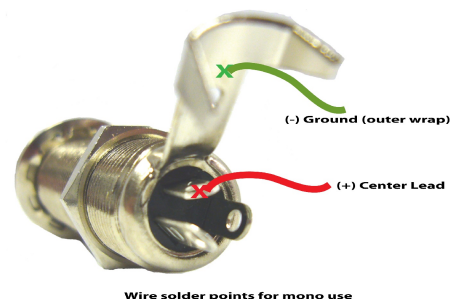

fig 2
- 7) Strip back three quarters of an inch of the black outer insulation of the lead wire exposing the copper shield. Twist this copper shield into a straight lead and solder it to the cable clamp e ground (-). The whitish coloured insulation from the centre lead should be stripped back about a quarter inch and this will be soldered to the shortest lug on the output jack, this is the hot (+) fig 2.
- 5) Strip back three quarters of an inch of the black outer insulation of the lead wire exposing the copper shield. Twist this copper shield into a straight lead and solder it to the cable clamp e ground (-). The whitish coloured insulation from the centre lead should be stripped back about a quarter inch and this will be soldered to the shortest lug on the output jack, this is the hot (+) fig 2.